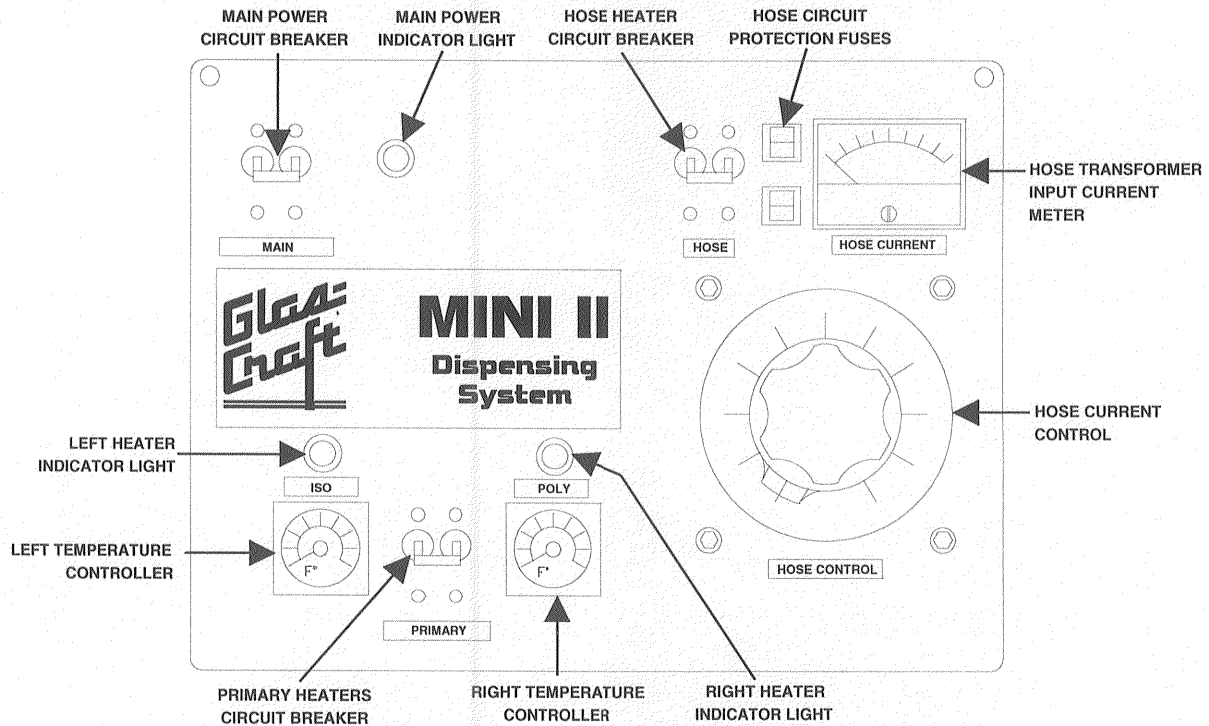

Fig. 11
- Refer to Figure 11 illustration during instruction steps D-1 thru D-4.